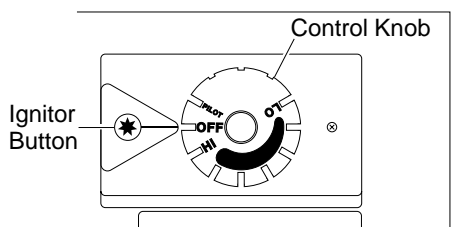

Figure 29 - Control Knob In The OFF Position
4. Wait five (5) minutes to clear out any gas. Then smell for gas, including near the floor. If you smell gas, **STOP!** Follow "B" in the safety information at the top of column 1. If you don't smell gas, go to the next step.
5. Turn control knob counterclockwise to the PILOT position. Press in control knob for five (5) seconds (see Figure 29).